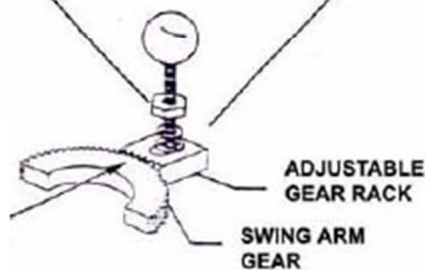

Fig. 17
3. Install **Arm Restraint** mechanisms to each swing arm, as detailed below (Fig. 17).